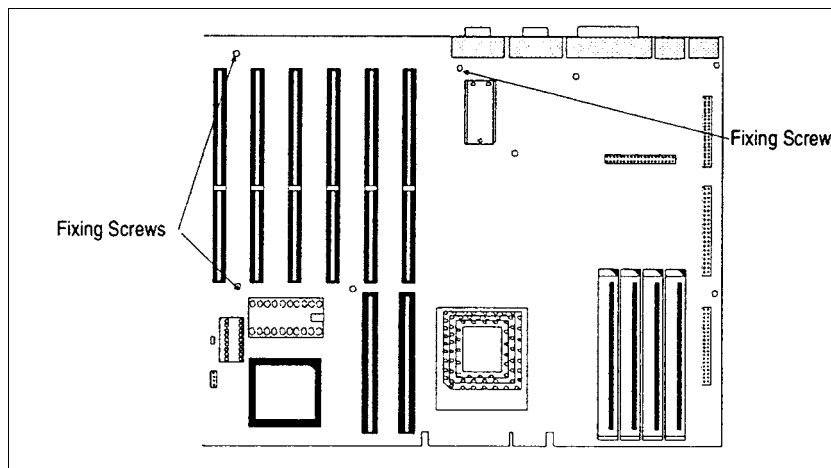

Figure 7-11. Planar Board Fixing Screws
6. Remove all the fixing screws from the planar board (Figure 7-11).